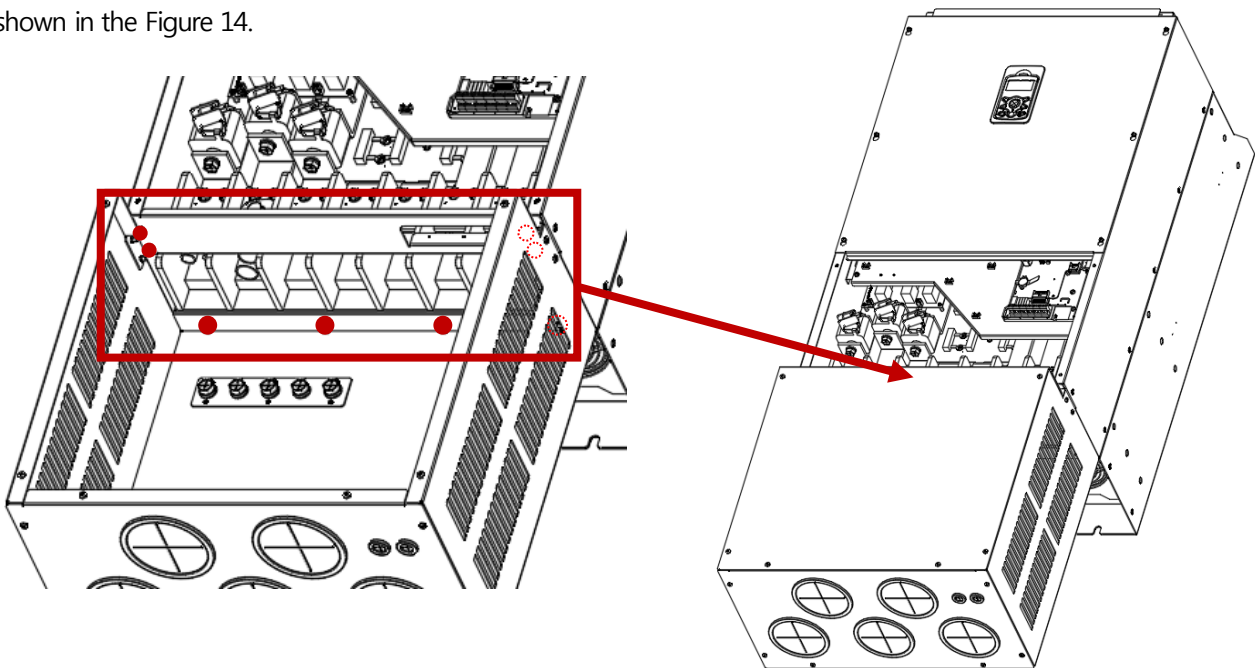

Figure 14. Install
- ② Fasten the Conduit Option to fit on the side of ground terminals of the product using the prescribed bolt as shown in the Figure 14.